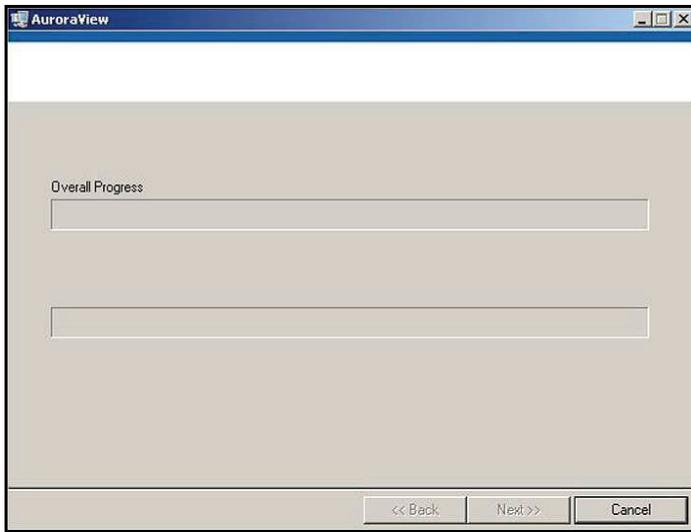

Figure 26: Overall progress
- During installation, the screen shown in *Figure 26* below appears.